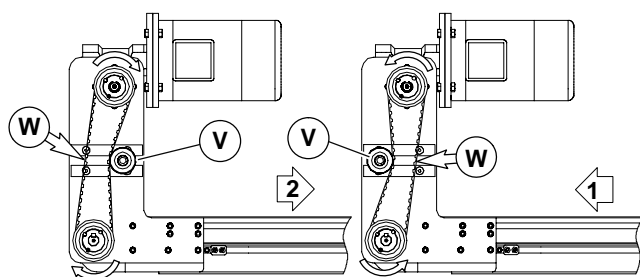

Figure 9
- Depending on conveyor belt travel (direction 1 or 2), locate timing belt tensioner (V of Figure 9) as shown. Tension timing belt to obtain 1/8" (3 mm) deflection for 6 lb (3 Kg) of force at timing belt mid-point (W). Tighten tensioner screw to 110 in-lb (12 Nm).
3. Depending on conveyor belt travel (direction 1 or 2), locate timing belt tensioner (V of Figure 9) as shown. Tension timing belt to obtain 1/8" (3 mm) deflection for 6 lb (3 Kg) of force at timing belt mid-point (W). Tighten tensioner screw to 110 in-lb (12 Nm).
5. Depending on conveyor belt travel (direction 1 or 2), locate timing belt tensioner (V of Figure 9) as shown. Tension timing belt to obtain 1/8" (3 mm) deflection for 6 lb (3 Kg) of force at timing belt mid-point (W). Tighten tensioner screw to 110 in-lb (12 Nm).